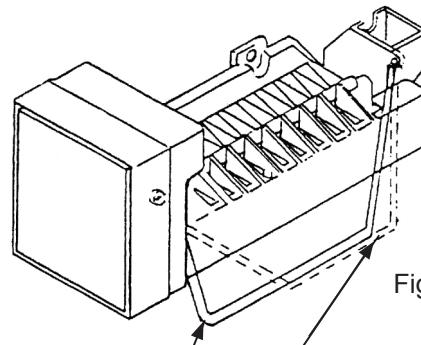

Figure 10
- The shutoff arm wire must be down in its lowest position for the ice-maker to operate. (See Figure 10).
- You may manually stop the ice-maker by raising the shut off arm to the locking position at the up most position. (See Figure 10).